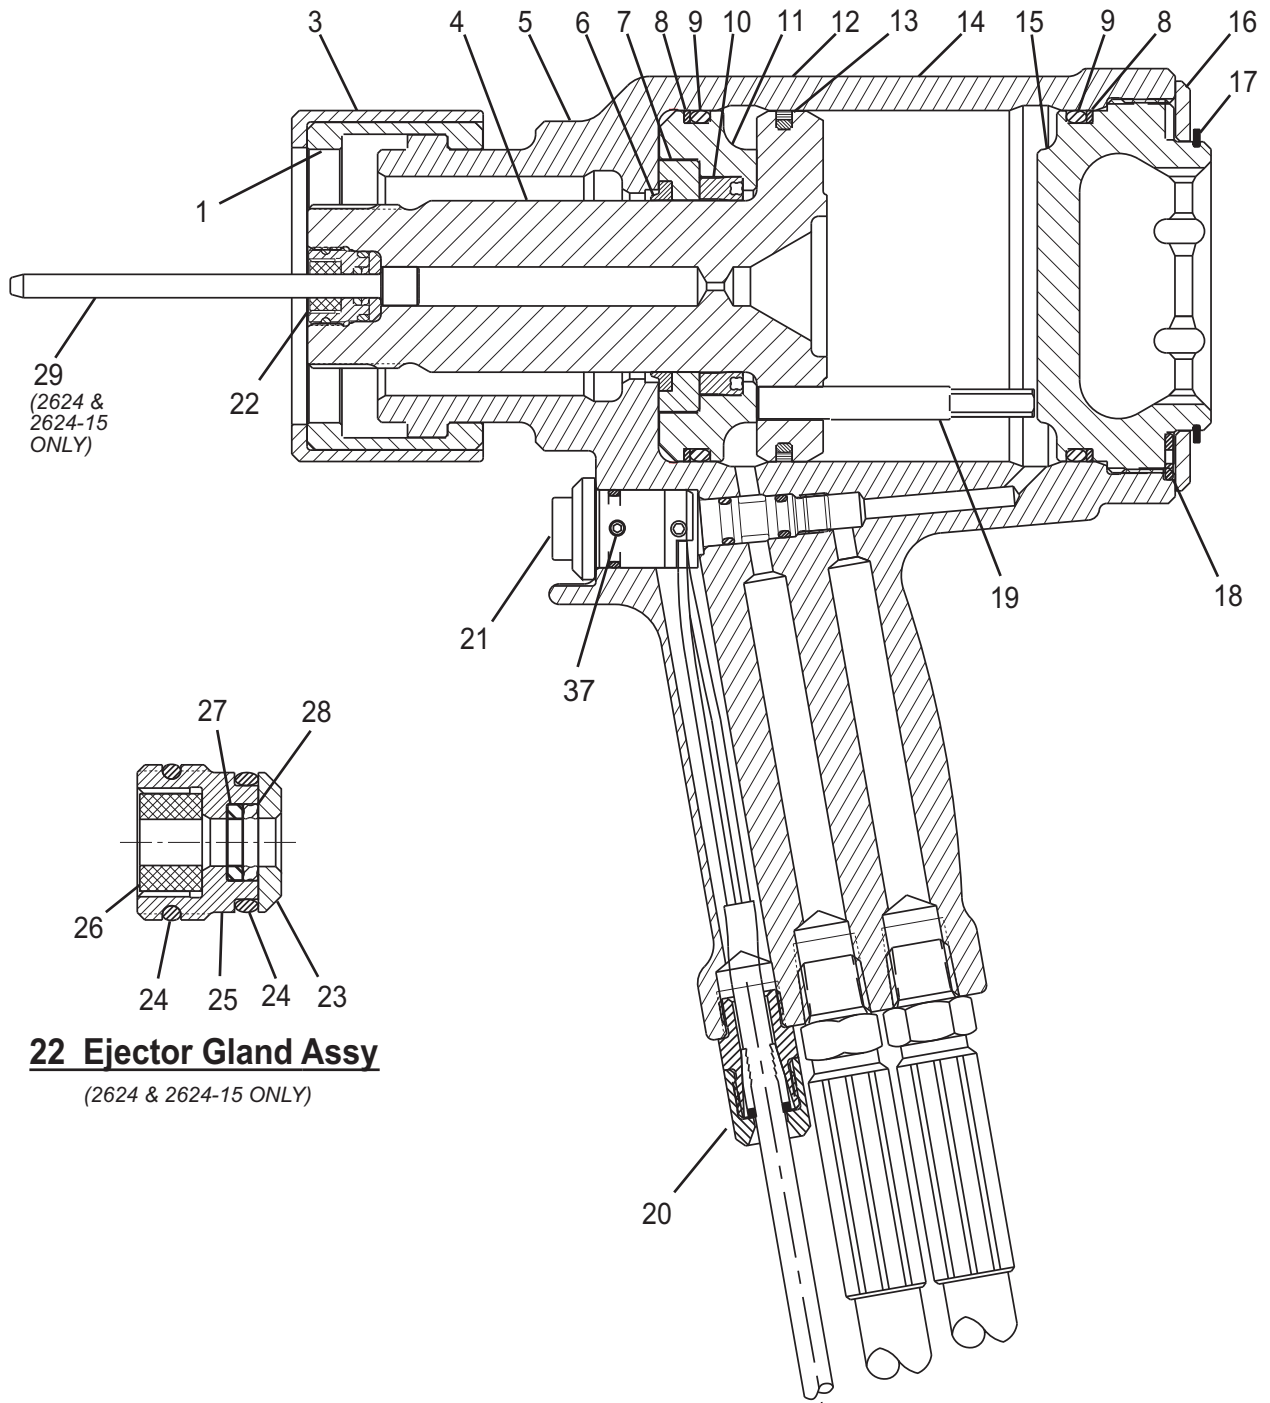

FIGURE 8
7. **Models 2624, 2628, 2630:** (Figures 8, 10 & 11)
9. **Models 2624, 2628, 2630:** (Figures 8, 10 & 11)
15. **Models 2624, 2628, 2630:** (Figures 8, 10 & 11)
- Models 2624, 2628, 2630:** (Figures 8, 10 & 11) Install Back-up Ring (27), Quad-Ring (28), Wiper (26), O-rings (24), Washer (23) and Ejector Rod (29) into Ejector Gland (25).
12. **Models 2624, 2628, 2630:** (Figures 8, 10 & 11)
14. **Models 2624, 2628, 2630:** (Figures 8, 10 & 11)